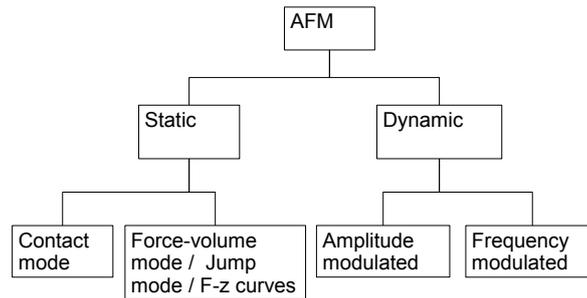

FIG. 3: A taxonomy of some major AFM modes.
There are myriad different AFM operating modes, all of which are built on the basic design above. These different modes have different strengths and weaknesses, and a particular task may be better served by one mode than another. A taxonomy of the major AFM modes is shown in Figure 3. There is a major division between static modes and dynamic modes. In dynamic modes, the cantilever probe is excited (typically at resonance) as it is scanned over the surface. In static modes, the probe is not excited. Within static modes, two of the major modes are contact mode and force-volume mode. In contact mode, the probe is essentially in contact with the sample at all times. In force-volume mode and the related jump mode, the probe touches a point, retracts, moves to the next point, approaches, and touches the next point. Both of these modes are built upon force-distance curves, also known as F-Z Curves. In dynamic modes, two of the main modes are amplitude modulated (AM) and frequency modulated (FM). These names can be confusing because in both AM and FM modes a feedback controller is used to keep the vibration